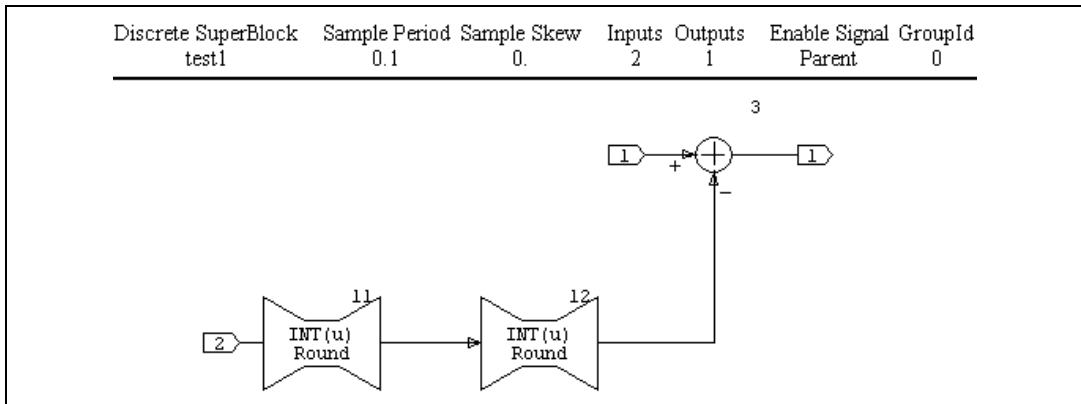

Figure 15-7. Example Showing How to Compare Fixed and Floating Types; SBO Case Shown
2. From the Algebraic palette of the Palette Browser, drag two TypeConversion blocks and a Summer block into the SuperBlock. Create the model shown in Figure 15-7.